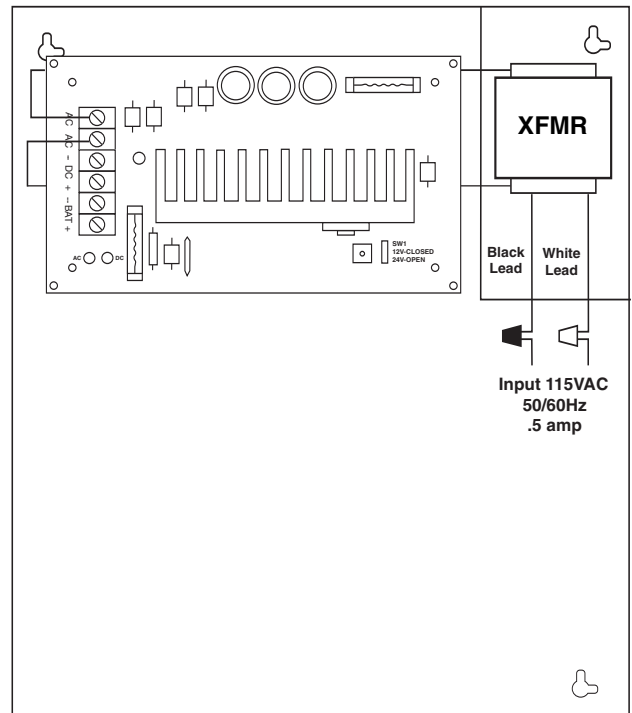

Fig. 1
2. Connect AC power to the black and white flying leads of the transformer (Fig. 1).
4. Connect devices to be powered to terminals marked [- DC +] (Fig. 1).
5. Connect battery to terminals marked [- BAT +] (Fig. 1) on the unit (battery leads included).